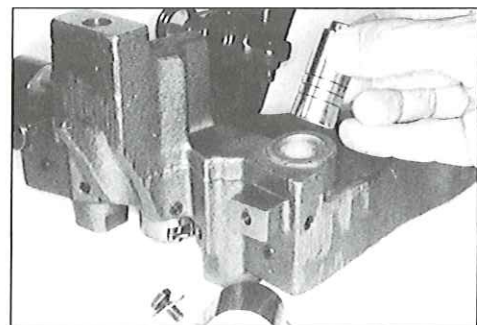

FIG. 45
2. Remove the master piston (see Fig. 45). Use needle-nose pliers if necessary.